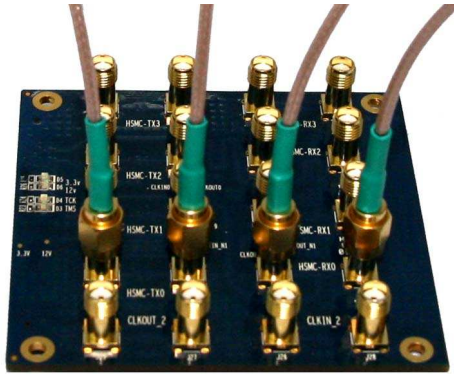

Figure 4.3 Short J23 and J24 via SMA Cable
- ii. Connect SMA Cable to J22 and J24 as shown in Figure 4.3 to short the negative signal of the transceiver channel 0 (HSMC-TX0n).